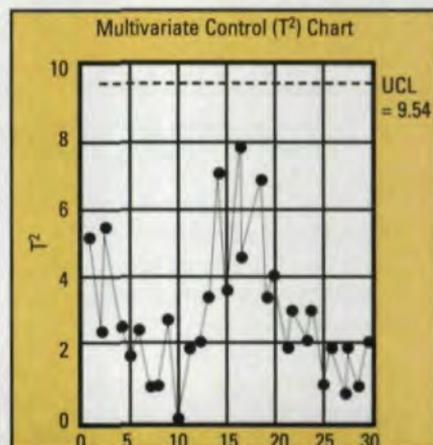

Fig. 1 — This T^2 chart combines 3 characteristics—tip, form and high point—in a single entity.
1. Multivariate (T^2) Charts are useful in understanding and controlling correlated performance characteristics. The performance characteristics of assemblies, such as noise, durability, ease of maneuverability, etc., are likely to be correlated. That means, for example, that trying to reduce the noise may result in losing maneuverability, or improvement of maneuverability may result in a reduced durability, and so on. The problems associated with correlated characteristics can only be defined with the use of a multivariate chart (see Fig. 1).